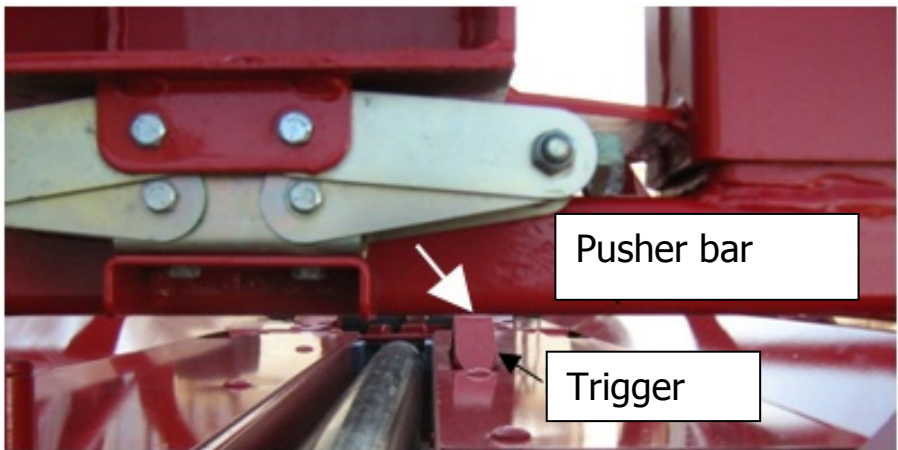

Figure 42 – Adjusting the pusher trigger
5. Move to a position where you can see the trigger and the pusher bar at the same time (Figure 42).
6. Pull on the hydraulic stop button. Let the pusher go to the front of the wrapper and when it is on its return and over the trigger (Figure 42).
To adjust the height of the trigger of the pusher (Figure 42), proceed as follows:
1. Screw or unscrew the nuts (Figure 43), if you want to raise or lower the trigger for the pusher (Figure 42).
2. To be at the right height the trigger should slightly touch the pusher bar (Figure 42).